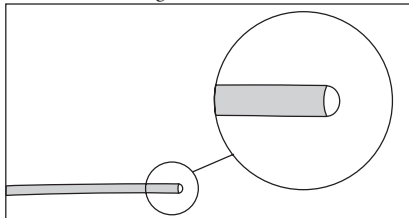

Figure 28
- Examine tip of VPS Stylet after removal to ensure wire has not been altered (refer to Figure 28).